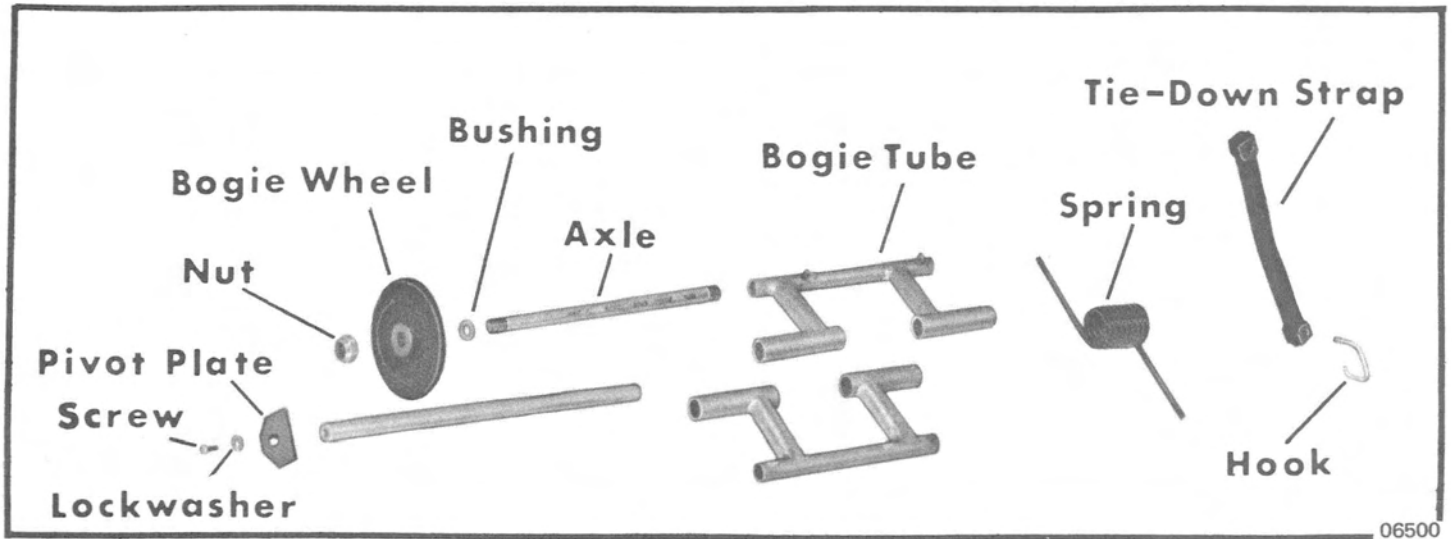

Figure 3. Bogie Set Exploded View
1. Remove bogie wheel and axle from tube assembly by removing nut on one side, then sliding axle out of tube assembly. (Figure 3)
4. Open 4 tension spring retaining clips (on tube assembly) and disconnect tension spring ends. (Figure 3)